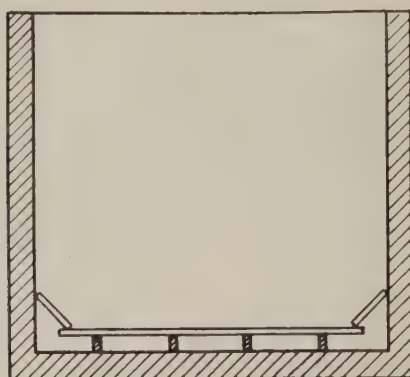

FIG. 19.—Boards to keep the bottom potatoes away from the sides of the car. This greatly reduces damage by freezing.
14. The potatoes at the floor should be loaded not less than 6 inches away from the sides and ends of the car. In bulk potato shipments, this may be accomplished by boards not less than 10 inches wide or by racks placed at an angle along the walls with one edge nailed to the false floor and the other resting (not nailed) on the side of the car (fig. 19). In sacked potato shipments the same method may be used, or the bottom layer of sacks may be loaded away from the sides and ends of the car and held in place by the layers above. This method is illustrated in figure 20.
9. The potatoes at the floor should be loaded not less than 6 inches away from the sides and ends of the car. In bulk potato shipments this may be accomplished by boards not less than 10 inches wide, or by racks placed at an angle along the walls with one edge nailed to the false floor and the other resting (not nailed) on the side of the car (fig. 19). In sacked potato shipments the same method may be used, or the bottom layer of sacks may be loaded away from the sides and ends of the car and held in place by the layers above. This method is illustrated in figure 20. *Caution:* Where boards are used